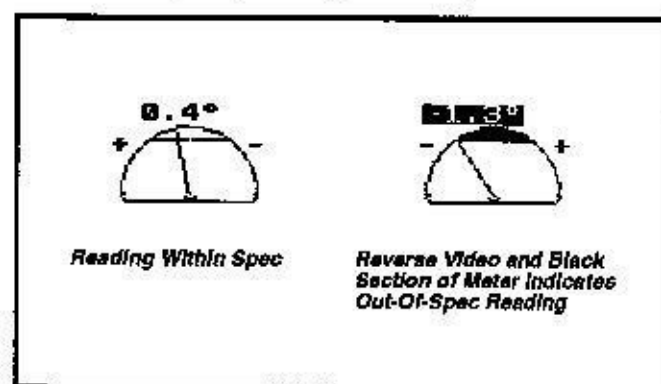

Figure 2-28
D. **Right & Left Camber Meters** - The number above the meter indicates the live reading. If the number appears in reverse video and the area at the top of the meter is filled in black, the readings are out of spec (see Figure 2-28).